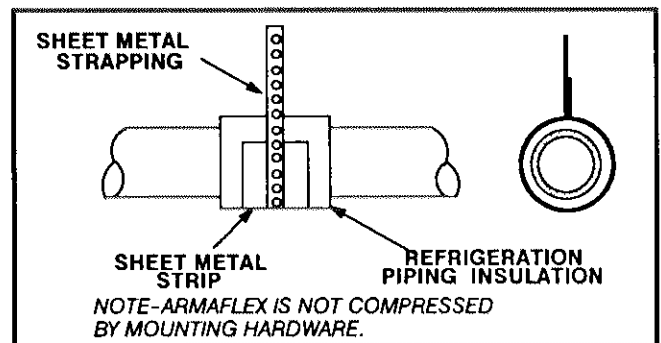

FIGURE 3
- 10- Suspend piping at a minimum of every 5 feet using isolation hangers. A suitable hanger can be fabricated by putting a sleeve of Armaflex refrigeration piping insulation around the pipe and suspending it using metal strapping as shown in figure 3. Place a small sheet metal strip between the Armaflex and the metal strapping to prevent crimping. Do not secure piping directly to joist or flooring.